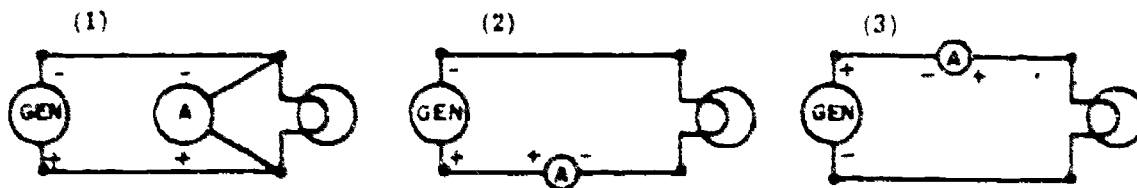

Figure 10
- 8.1 In which schematic diagram in Figure 10 below is the ammeter properly connected - (1), (2), or (3)? \_\_\_\_\_